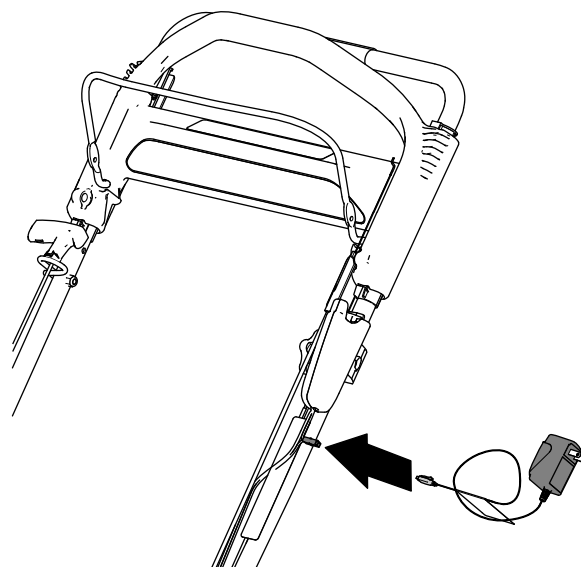

Figure 42
1. Connect the charger to the wiring harness located below the electric-start button (Figure 42).